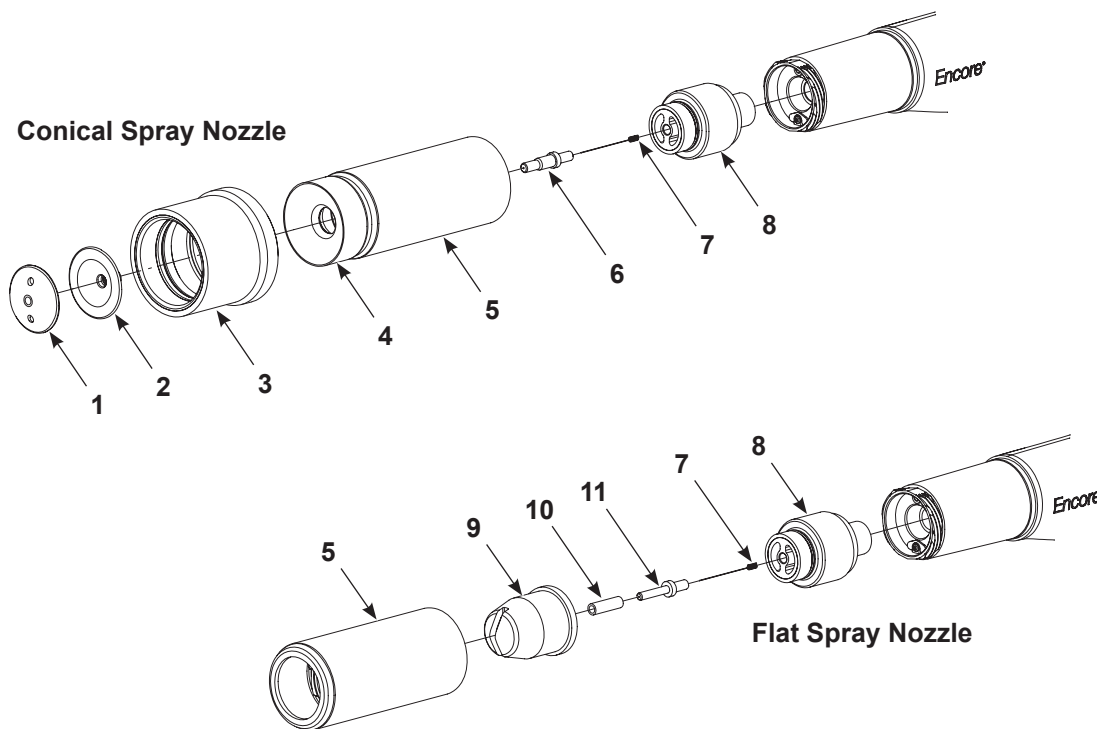

Figure 3-5 Changing From Conical to Flat or Corner Spray Nozzle (Shown with Flat Spray Nozzle)
See Figure 3-5. To change from the standard conical nozzle to a flat or corner spray nozzle, the following items should be ordered.
2. See Figure 3-5. Remove the nozzle from the gun:
**Conical Nozzle:** Unscrew the deflector cap (1), then remove the deflector (2). Unscrew the nozzle nut (4) and remove it along with the nozzle and pattern sleeve (3) from the gun.
**Flat or Corner Spray Nozzle:** Unscrew the nozzle nut (4) and remove it along with the nozzle (8) from the gun.
3. Pull the electrode support (7) out of the gun.
6. If you are using a conical nozzle, pull the pattern sleeve (3) off the nozzle nut and nozzle. Clean all parts removed with a low-pressure blow gun. Wipe the parts with a clean, dry cloth.